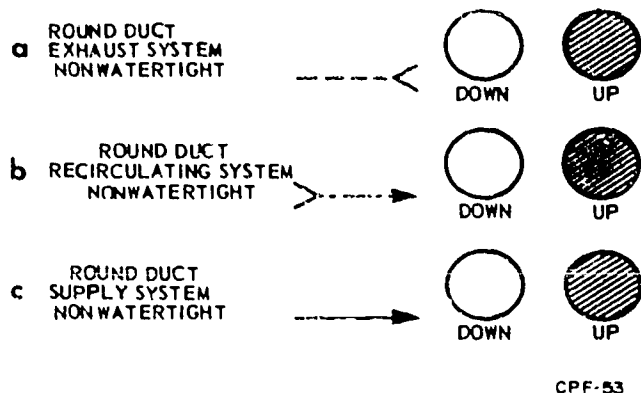

Figure 1-13. Symbols used for round ducts.
**Round duct, exhaust system, nonwatertight.** The duct symbols, shown in a figure 1-13, are used on working drawings to indicate a round nonwatertight exhaust duct such as that used with a hood to exhaust smoke and heat
**Round duct, recirculating system, nonwatertight.** This symbol (fig. 1-13,b), is used on the plan views of working drawings for round return ducts such as the return air duct to furnaces. This symbol is a slight variation from that of a rectangular duct.
**Round duct, supply system, nonwatertight.** This symbol (fig. 1-13,c) is used on the plan views of working drawings to indicate round supply ducts to components such as furnaces.